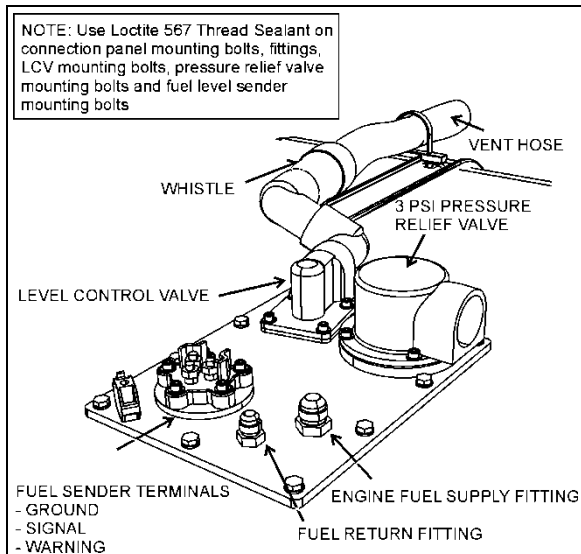

FIGURE 20: FUEL TANK CONNECTION PANEL
4. Disconnect the fuel level sender electrical wires (3wires). Prior disconnecting, identify the wires and proper terminal on the fuel level sender as reference for reinstallation (Figure 20).